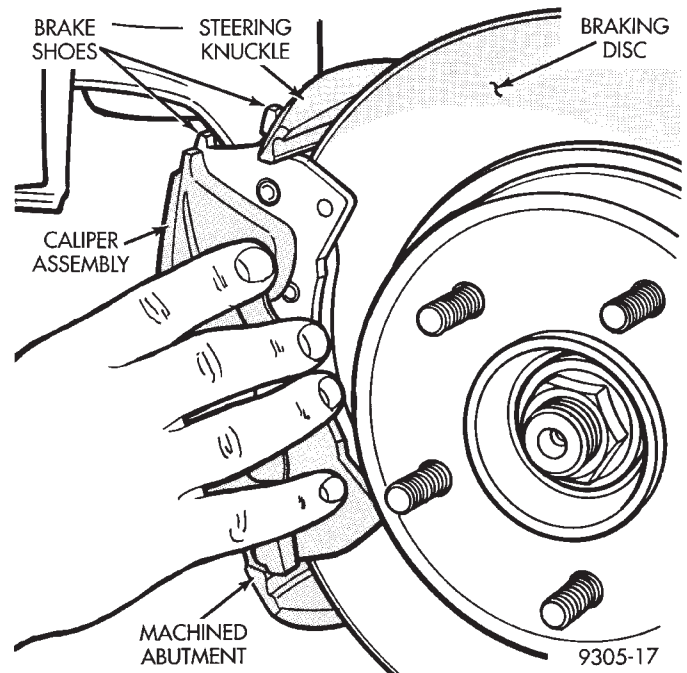

Fig. 2 Removing Caliper Assembly From Steering Knuckle And Rotor
(4) Remove caliper assembly from steering knuckle and braking disc, by first rotating top of caliper assembly away from steering knuckle. Then lifting caliper assembly off bottom machined abutment on steering knuckle (Fig. 2).